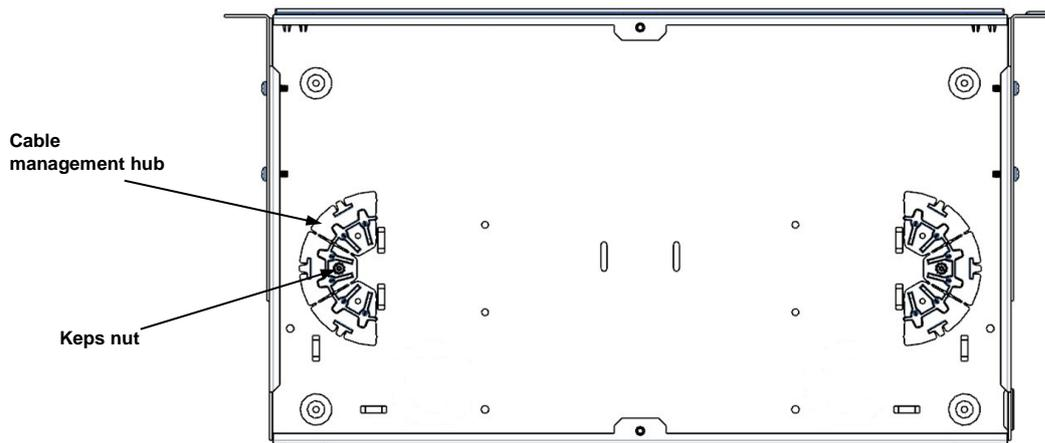

Fig.4
3.4.1 Cable Management hubs (Fig. 4)